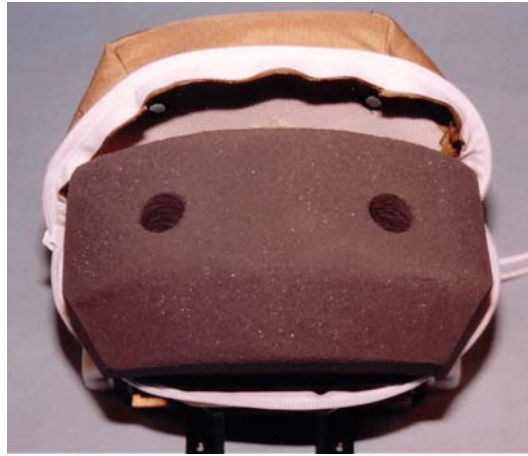

Figure 10.17- Internal front foam layer
18. Examine the Front Abdominal Foam Layer (T1LAM012), position the flat face against the exposed surface of the rear foam layer, as shown in **Figure 10.17**. Again, pass the DGSP assembly cables through the large bored holes in the front foam layer.